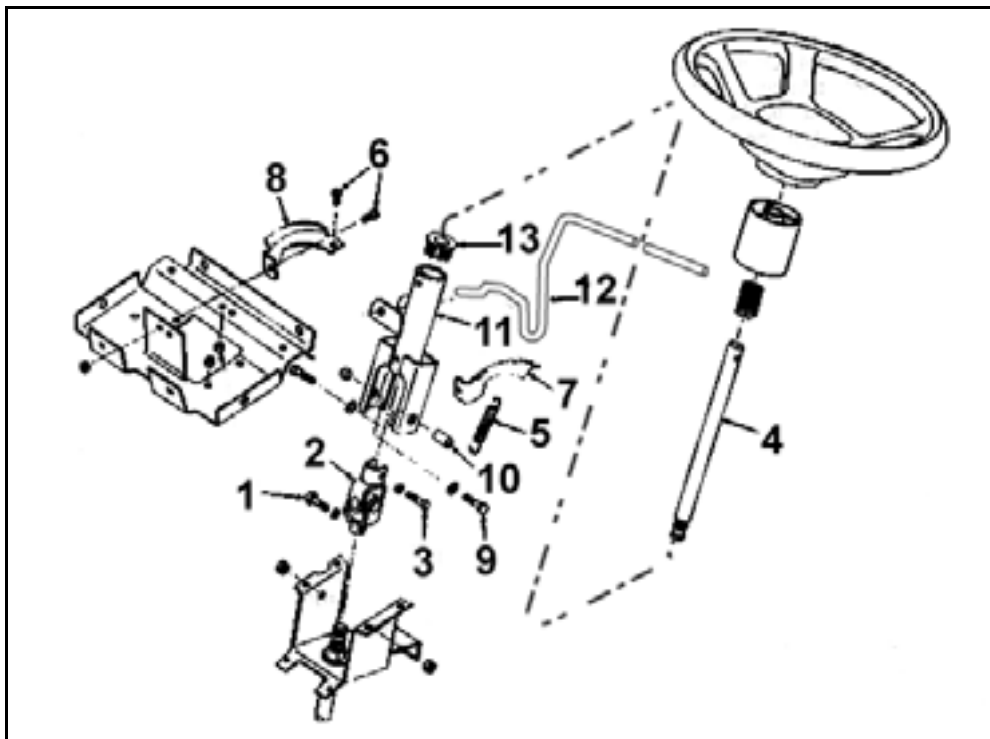

Figure 41
3. Remove the bottom retaining bolt, 1, from the universal joint, 2 (Figure 41).
4. Remove the top retaining bolt, 3, from the universal joint and disconnect the top steering shaft, 4, from the tractor (Figure 41).
6. Remove the spring, 5, from the left pivot spacer and tilt control handle (Figure 41).
7. Remove the four bolts, 6, and nuts from the left and right support brackets, 8, and 9, and remove the brackets (Figure 41).
8. Remove the two side pivot bolts, 9, and spacers, 10, from the steering column. Lift the column, 11, out of the tractor (Figure 41).
9. Slide the tilt control handle, 12, off the steering column bracket (Figure 41).
10. Remove the bushing, 13, from the top of the steering column (Figure 41).
1. Place bushing, 13, on top of the steering column (Figure 41).
2. Insert the tilt control handle, 12, into the steering column bracket (Figure 41).
3. Secure the steering column to the mounting bracket with pivot bolts, 9; spacers, 10; and locknuts (Figure 41).
4. Install the left, 7, and right, 8, support brackets, using four bolts, 6, and nuts. The notched bracket goes on the left side. Adjust the brackets to obtain minimal side play between the column and brackets (Figure 41).
5. Attach the spring, 5, to the tilt handle and left pivot spacers (Figure 41).
6. Tilt steering to its farthest rearward position and place the universal joint, 2, on the steering gear shaft. Pass the bottom bolt, 1, of the universal joint through the universal and steering gear shaft and secure (Figure 41).
7. Insert the top steering shaft, 4, onto the upper end of the universal joint check the front wheel alignment, wheels should be straight ahead. Install the retaining bolt, 3, through the upper end of the universal joint and steering shaft (Figure 41).